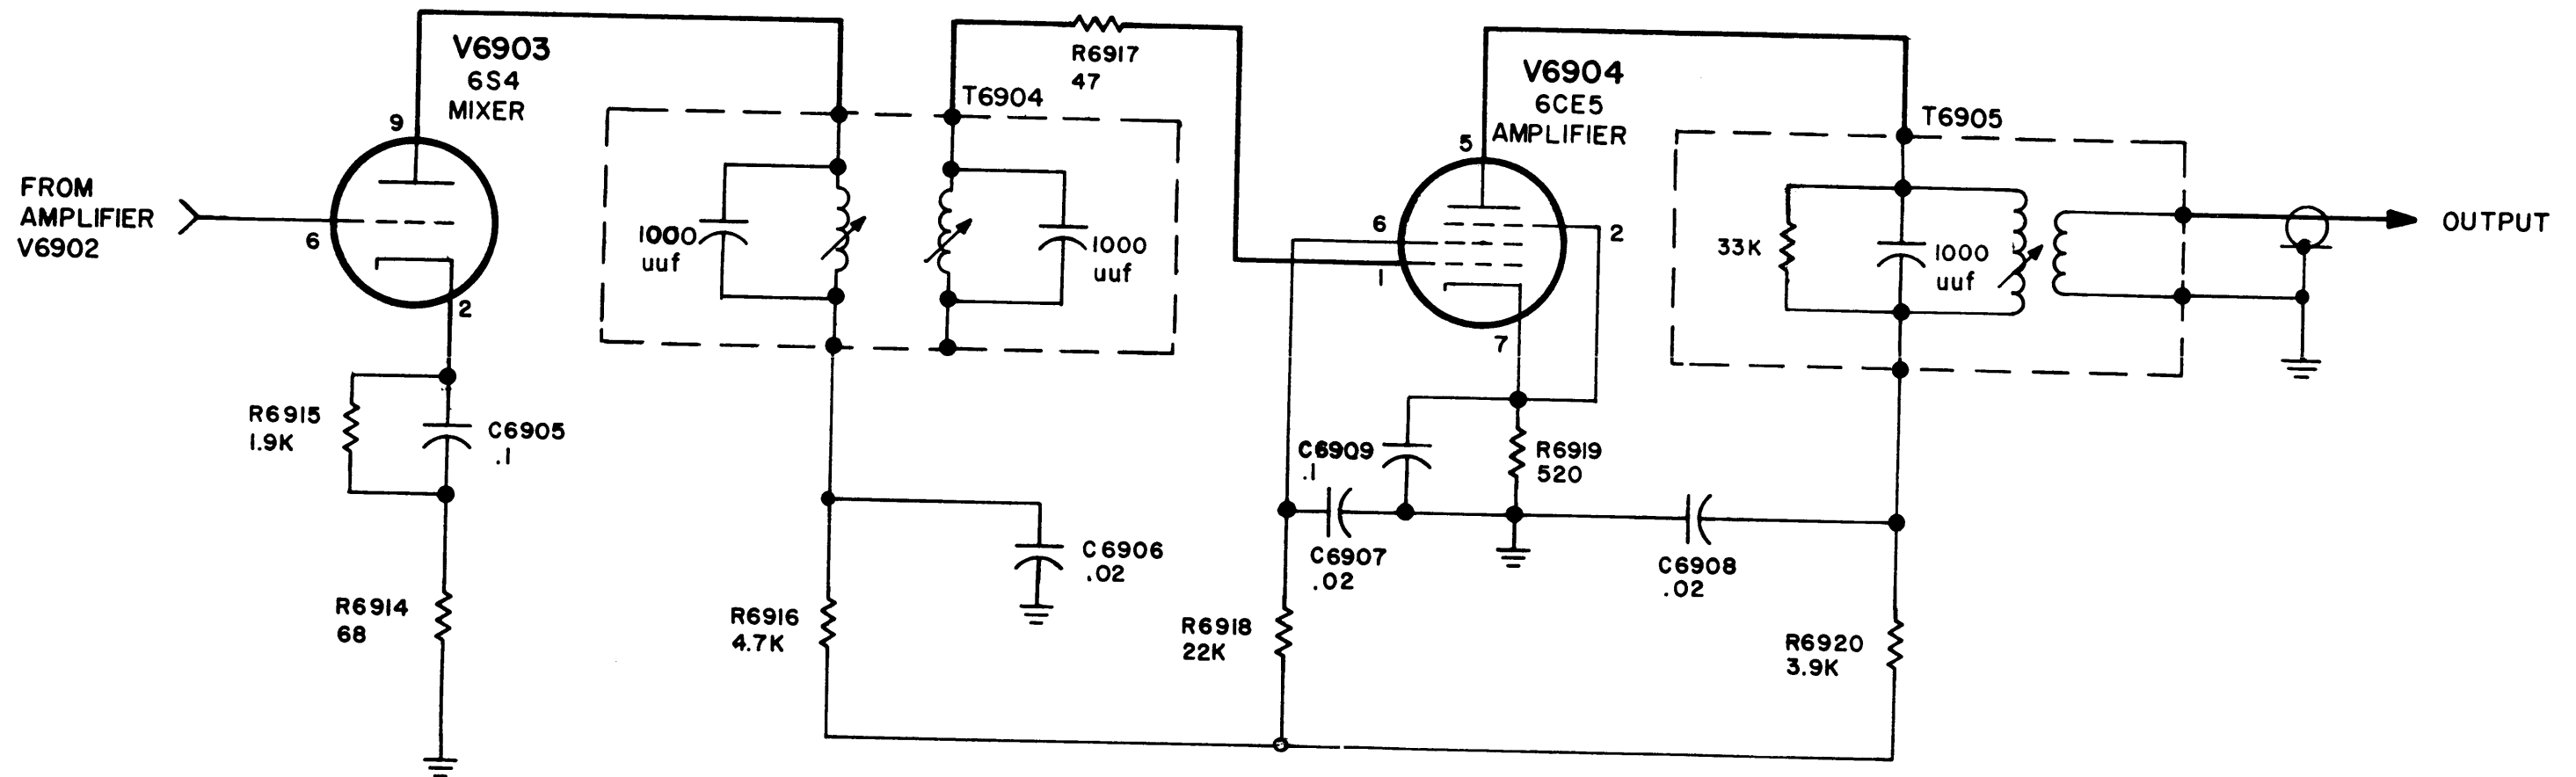

FIGURE 4-6. SIMPLIFIED SCHEMATIC OF MIXER V6903 AND AMPL V6904
a. CIRCUIT ANALYSIS - The second input to this mixer is injected in the cathode circuit. These two signals are heterodyned in V6903, producing both additive and subtractive resultant frequencies. The output circuit of V6903, consisting of transformer T6904, is designed to pass the 250-kc difference frequency between the two signals. This 250-kc signal is coupled through R6917 to the grid of V6904. The output, taken from T6905, is coupled through S6901A to J6902. See figure 4-6.